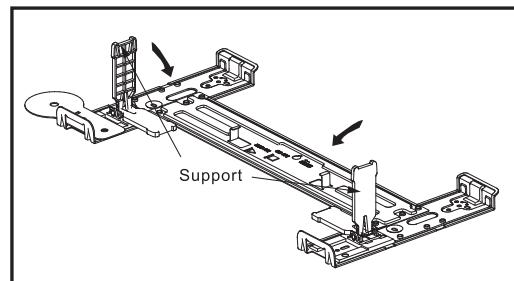

Fig. 18
- 7) Close the two supports on the wall mounting plate as shown in Fig. 18.Then move the unit step by step to reach the best installation, then press the unit into 2 down slots (Fig.19).